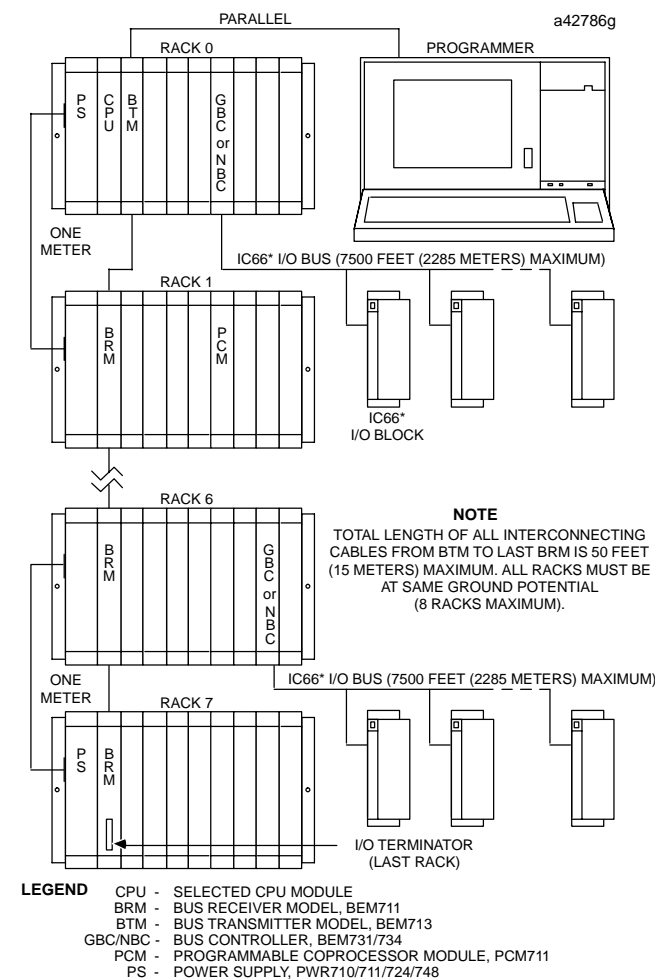

Figure 2. Typical PLC System Configuration
- Insert label inside module access door (see figure 2).
The terminator plug which is supplied with each BRM is only required in the last BRM in the chain as shown in figure 2. It may be discarded or saved as a spare if this BRM is not at the end of the chain.
Using cable IC600WDxxxA (where xxx is length in feet as shown in figure 2) a Bus Transmitter Module (BTM) in the CPU rack connects to a BRM in an expansion rack. Additional expansion racks are added by daisy-chaining cabling between BRMs.